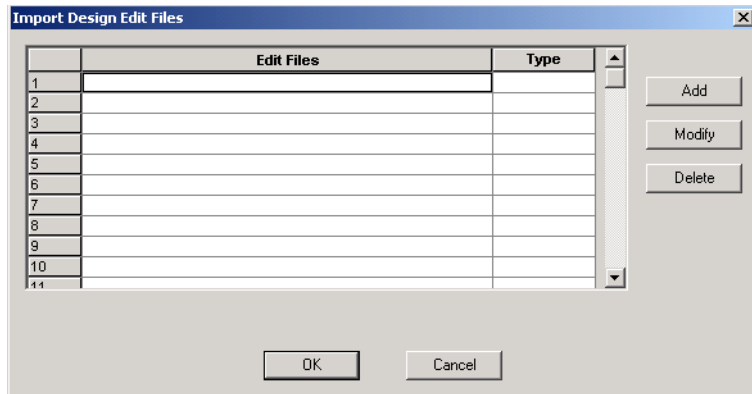

Figure 2-13. Import Auxiliary Files Dialog Box
1. **From the File menu, click *Import Auxiliary Files*.** The Import Auxiliary Files dialog box is displayed, as shown in Figure 2-13